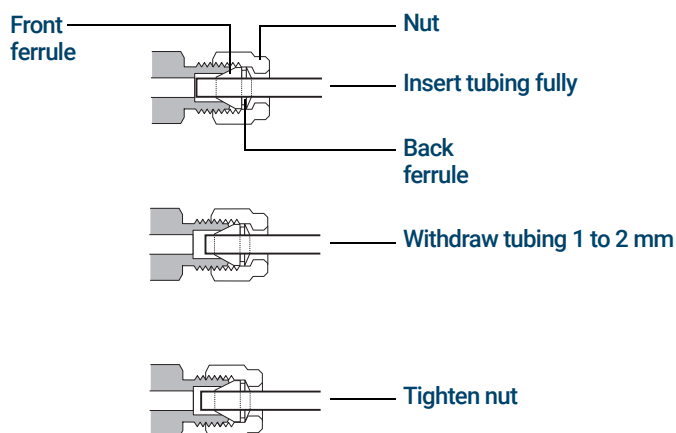

Figure 17. Insert the tubing
- 5 Push the tube fully into the plug, then withdraw it approximately 1 to 2 mm as shown in **Figure 17**.